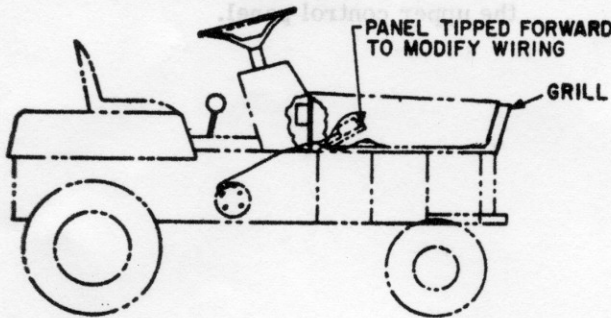

Figure 1
1. Lower the upper control panel so its mounted components are exposed as shown in Figure 1.